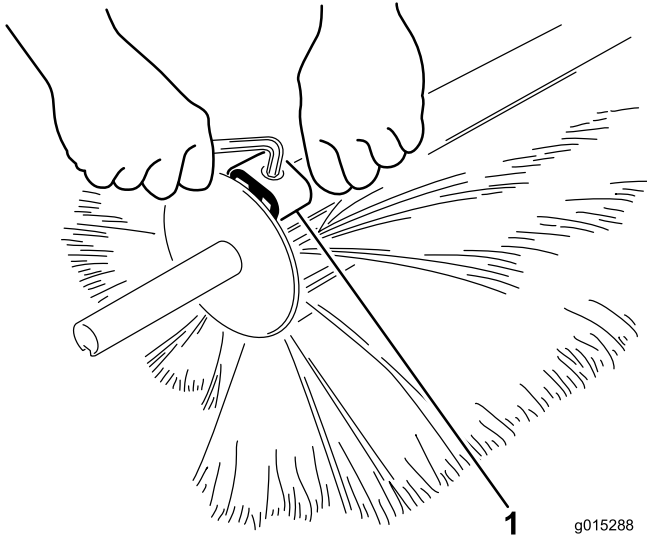

Figure 36
2. Loosen the clamps with an allen wrench and remove it from the brush halves (Figure 36).